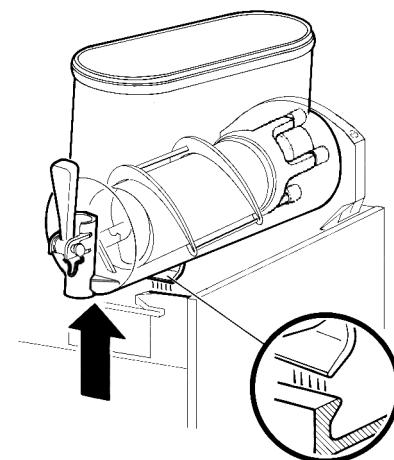
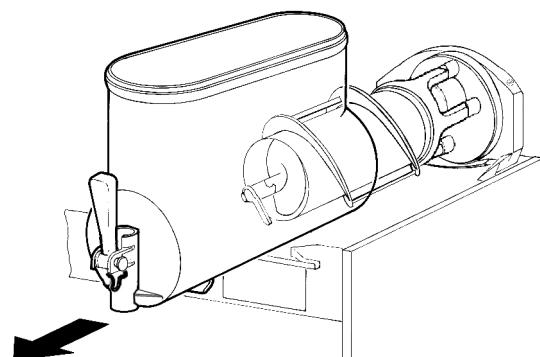

figure 4
figure 5
- 2** Remove the bowl by lifting its faucet side up and off the fastening hooks (see figure 4) and slide it out (see figure 5).